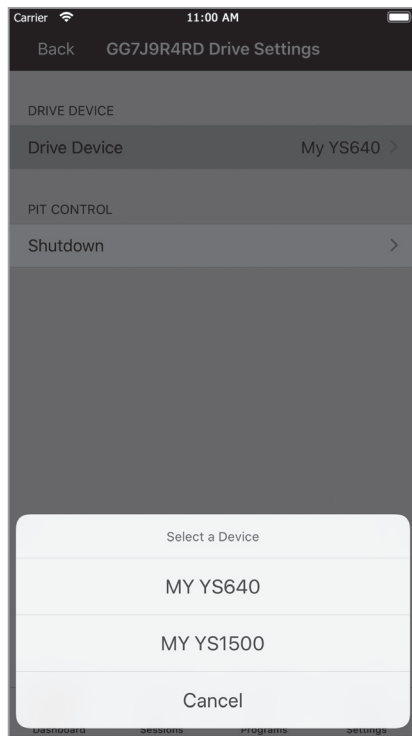

FIG 18
- Tapping the small wrench icon in the upper right of the grey bar will take you to a section that allows you to choose between multiple cookers (if you have more than one paired to your mobile device) (FIG 18) and also allows you to shut down your cooker (FIG 19).